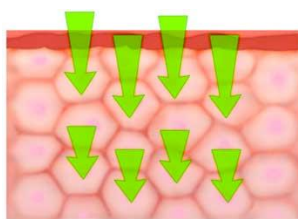

Figure 2: Transcellular permeation
2. Transcellular permeation (Figure 2)
As shown in Figure 2, another pathway for chemicals to be absorbed into and through the skin is transcellular, or cell-to-cell, permeation whereby molecules diffuse directly through the corneocytes.